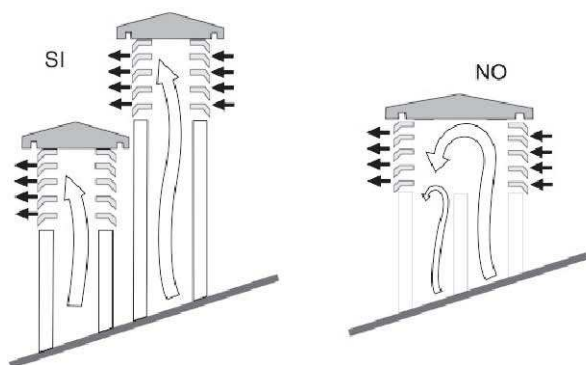

Fig.3
- Whenever using parallel output chimneys, it is advisable to raise a bracing element. (Fig.3)